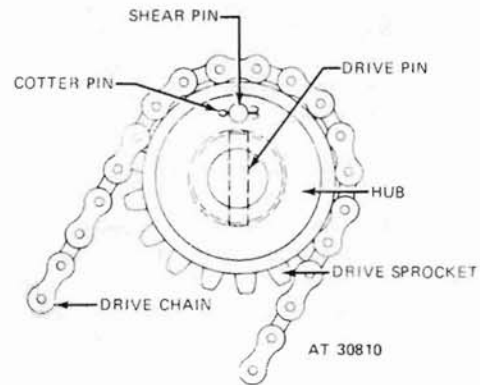

Figure 472. Rear winch sprocket and shear pin.
(1) Winch sprocket and shear pin (fig. 472).
- (a) *Removal.* Remove the drive chain (par. 434b (1)). Remove cotter pin and remove shear pin from the winch sprocket and hub. Remove locking ring from hub. Remove locking ring from sprocket. Rotate hub 90° to line up sprocket and bushing holes. Remove plugs so that pin can easily be removed securing sprocket and hub. Remove sprocket, hub, and bushing from shaft.